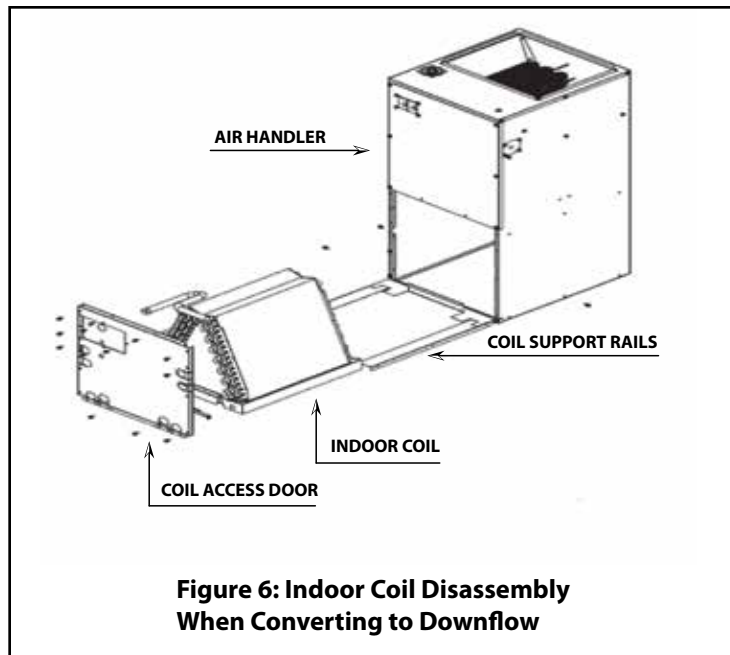

Figure 6: Indoor Coil Disassembly When Converting to Downflow
This air handler may be converted to a downflow configuration using a required downflow conversion kit by following the instructions below (See Figures 6 and 7).
4. Remove 6 screws (3 on each side of air handler), securing indoor coil support rails. Refer to Figure 6.